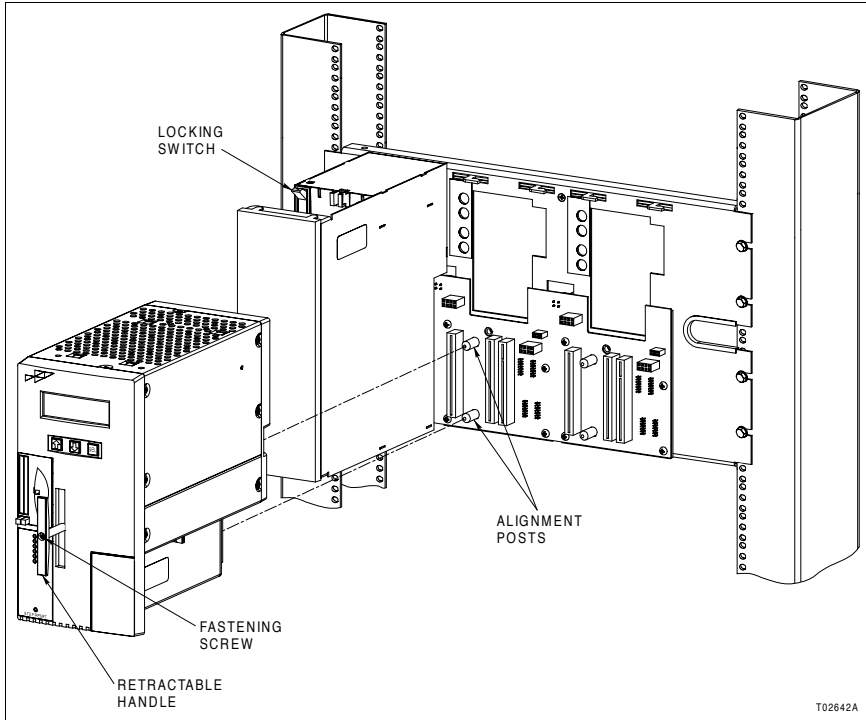

Figure PR16-1. Controller Module Removal
-  2. Loosen the captive front panel fastening screw (Fig. PR16-1).